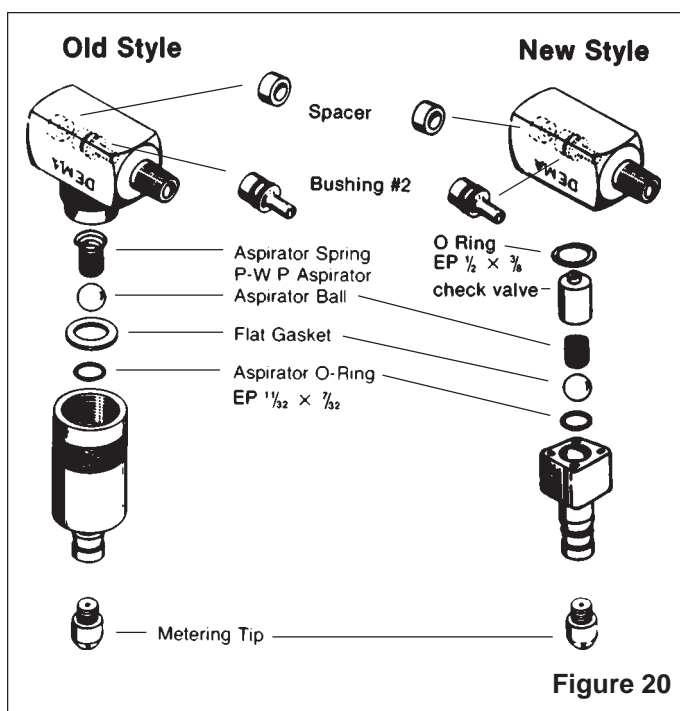

Figure 20
7. Porta-Washer P Aspirator Body (*Figure 20*).